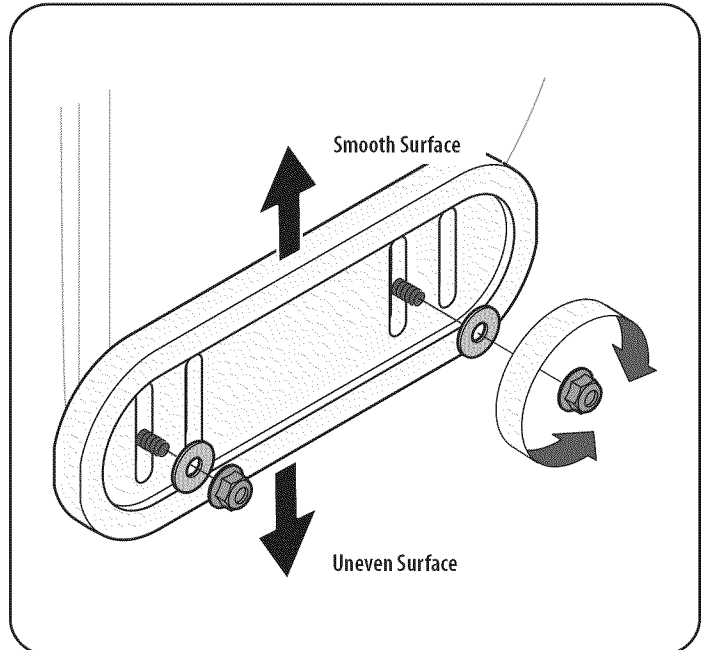

Figure 15
- For close snow removal on a smooth surface, raise skid shoes higher on the auger housing. Refer to Figure 15.
1. Loosen the four hex nuts (two on each side) and carriage bolts. Move skid shoes to desired position. See Figure 15.